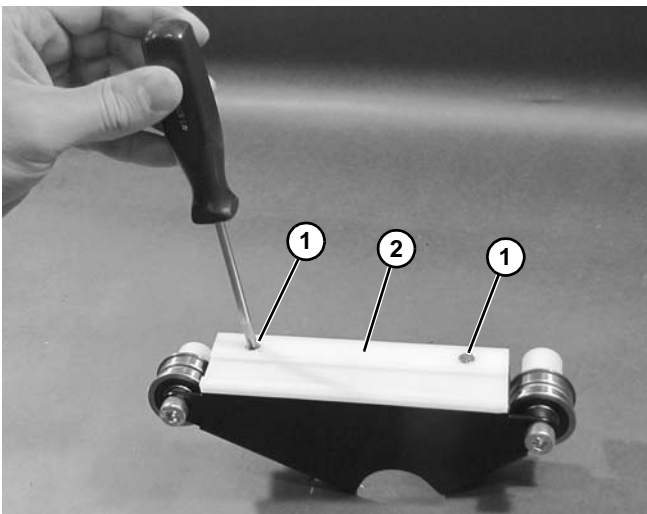

Figure 163
- Remove screws (Figure 163, item 1) and wear strip (Figure 163, item 2).